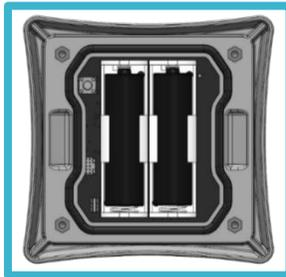

Figure 2
4. Respect polarity. [Figure 2]
5. Insert two AA limited power 3.6 V Primary lithium-thionyl chloride (Li-SOCl₂) batteries. [Figure 2]